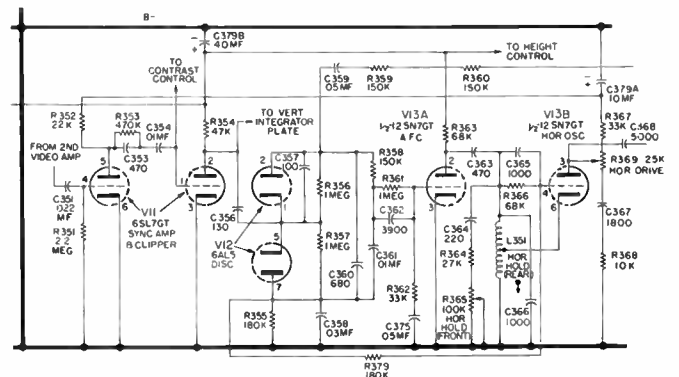

Fig. 3. Sync Amplifier, Clipper, AFC and Horizontal oscillator circuits used in most 10-, 12-, 14-, 16- and 17-inch General Electric receivers.
**TELE-CLUE K-155.** The above condition was due to leakage in capacitor C-351 in Fig. 3. In this instance, the picture would sync normally at a low setting of the contrast control. When the contrast control was advanced to produce a picture with normal contrast, the vertical would jump to the position shown above. If this capacitor is shorted, the picture will be too dark and the contrast control will have very little if any effect.
**TELE-CLUE K-153.** The waviness in the picture together with the displacement to the left resulted from an open C-353 in Fig. 3. Since this capacitor has to pass the horizontal sync pulse, when it is open, the sync pulse will be integrated through the resistor, R-353. This integrated pulse causes a delay in the sync which shifts the picture to the left. With the weakened horizontal sync pulse, the sync is influenced by the black transmission of the picture that causes the wavy edge to the picture. It appears as though the "black" transmissions pull the picture out of shape.